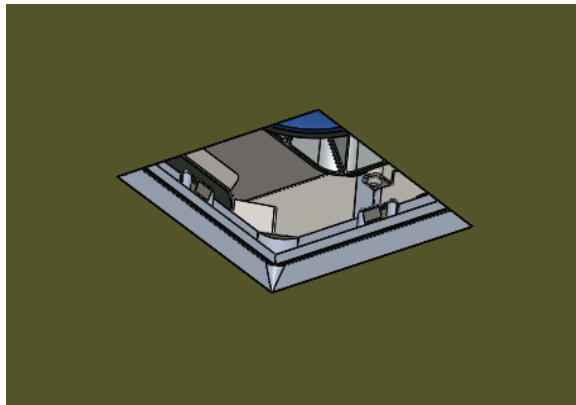

fig. 10
1. Do a skim coat up to the aperture rim using a joint compound. (For mud-in versions, cover the flange but not the retainer.) For best results, use a full ceiling float. (see fig. 10)